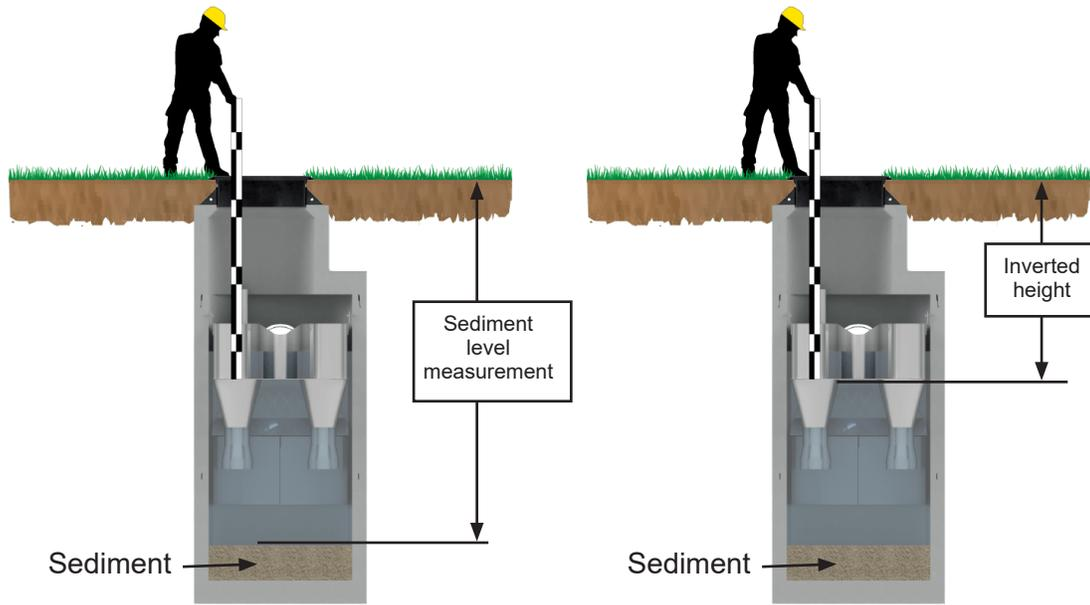

Figure 3: Sediment inspection method
2. Sediment level inspection (Figure 3)